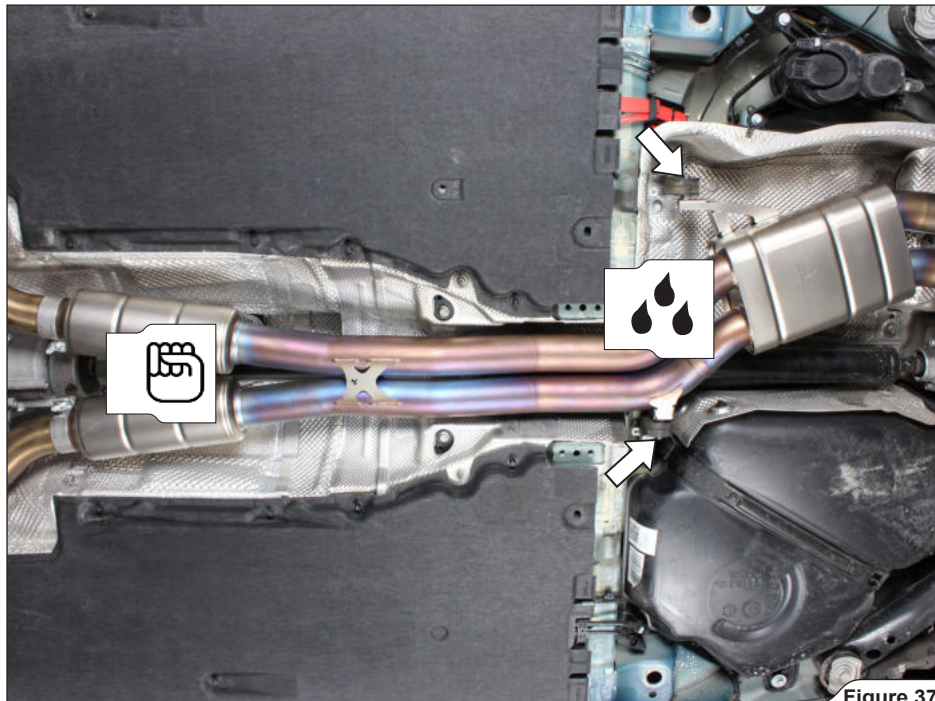

Figure 37
7. Slide the collector all the way onto the link pipes outlets, attach the collector's bracket pins to the stock rubber brackets and hand tighten the clamps (**Figure 37**).